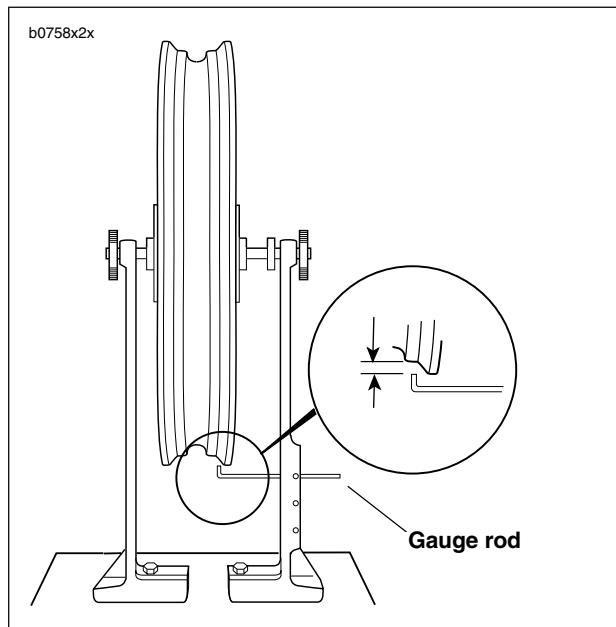

Figure 2-28. Checking Cast Rim Radial Runout Using Wheel Truing and Balancing Stand (HD-99500-80)
1. See Figure 2-28. Install truing arbor in wheel hub and place wheel in WHEEL TRUING AND BALANCING STAND (Part No. HD-99500-80).